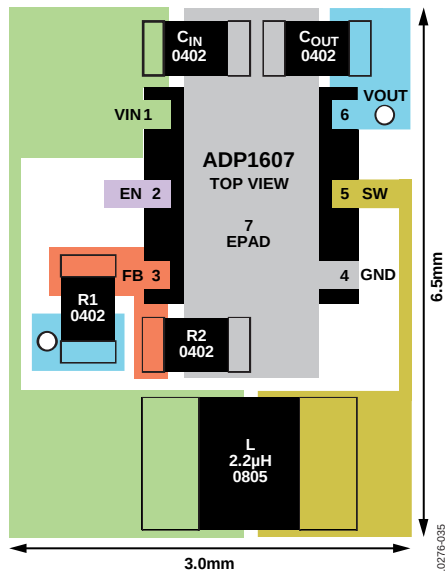

Figure 31. ADP1607 Recommended Layout Showing the Smallest Footprint
- For ADP1607, place the feedback resistors, R1 and R2, as close to FB as possible to prevent noise pickup. Connect the ground of the feedback network directly to an AGND plane that makes a Kelvin connection directly to the GND pin. See Figure 31 for more information.